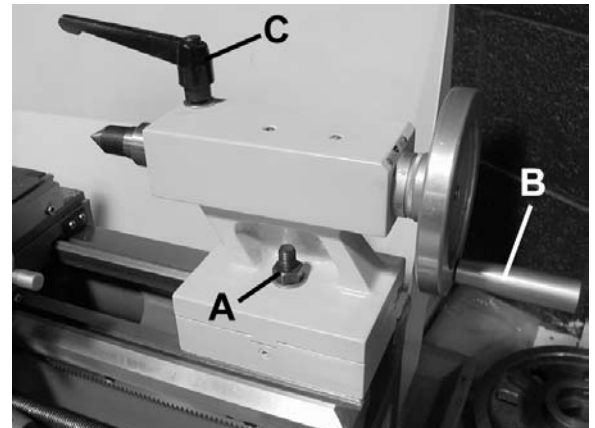
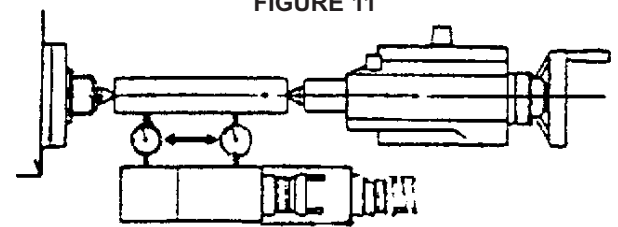

FIGURE 11
FIGURE 12
The tailstock can be moved freely on the bedway and fastened at any position by tightening tailstock hex. nut (A) Fig.11. The tailstock quill can be moved in and out by using handwheel (B) and then fastened in place using quill locking lever (C). Dead centers or drill chucks are normally installed in the tailstock quill.
An important adjustment and verification must be done in order to obtain the best results using your tailstock. The tailstock must be perfectly aligned with the chuck. Fix a ground steel bar inbetween the chuck center and the tailstock center. Using a precise measuring tool (dial indicators), make sure the distance at both ends of the ground steel bar are the same using the top slide as starting reference point, see Fig.12. If the distance is not the same, then a crosswise adjustment to the tailstock is necessary. Adjust set screws (D) Fig.11 on both sides of the tailstock until the distance at both ends of the ground steel bar are the same.